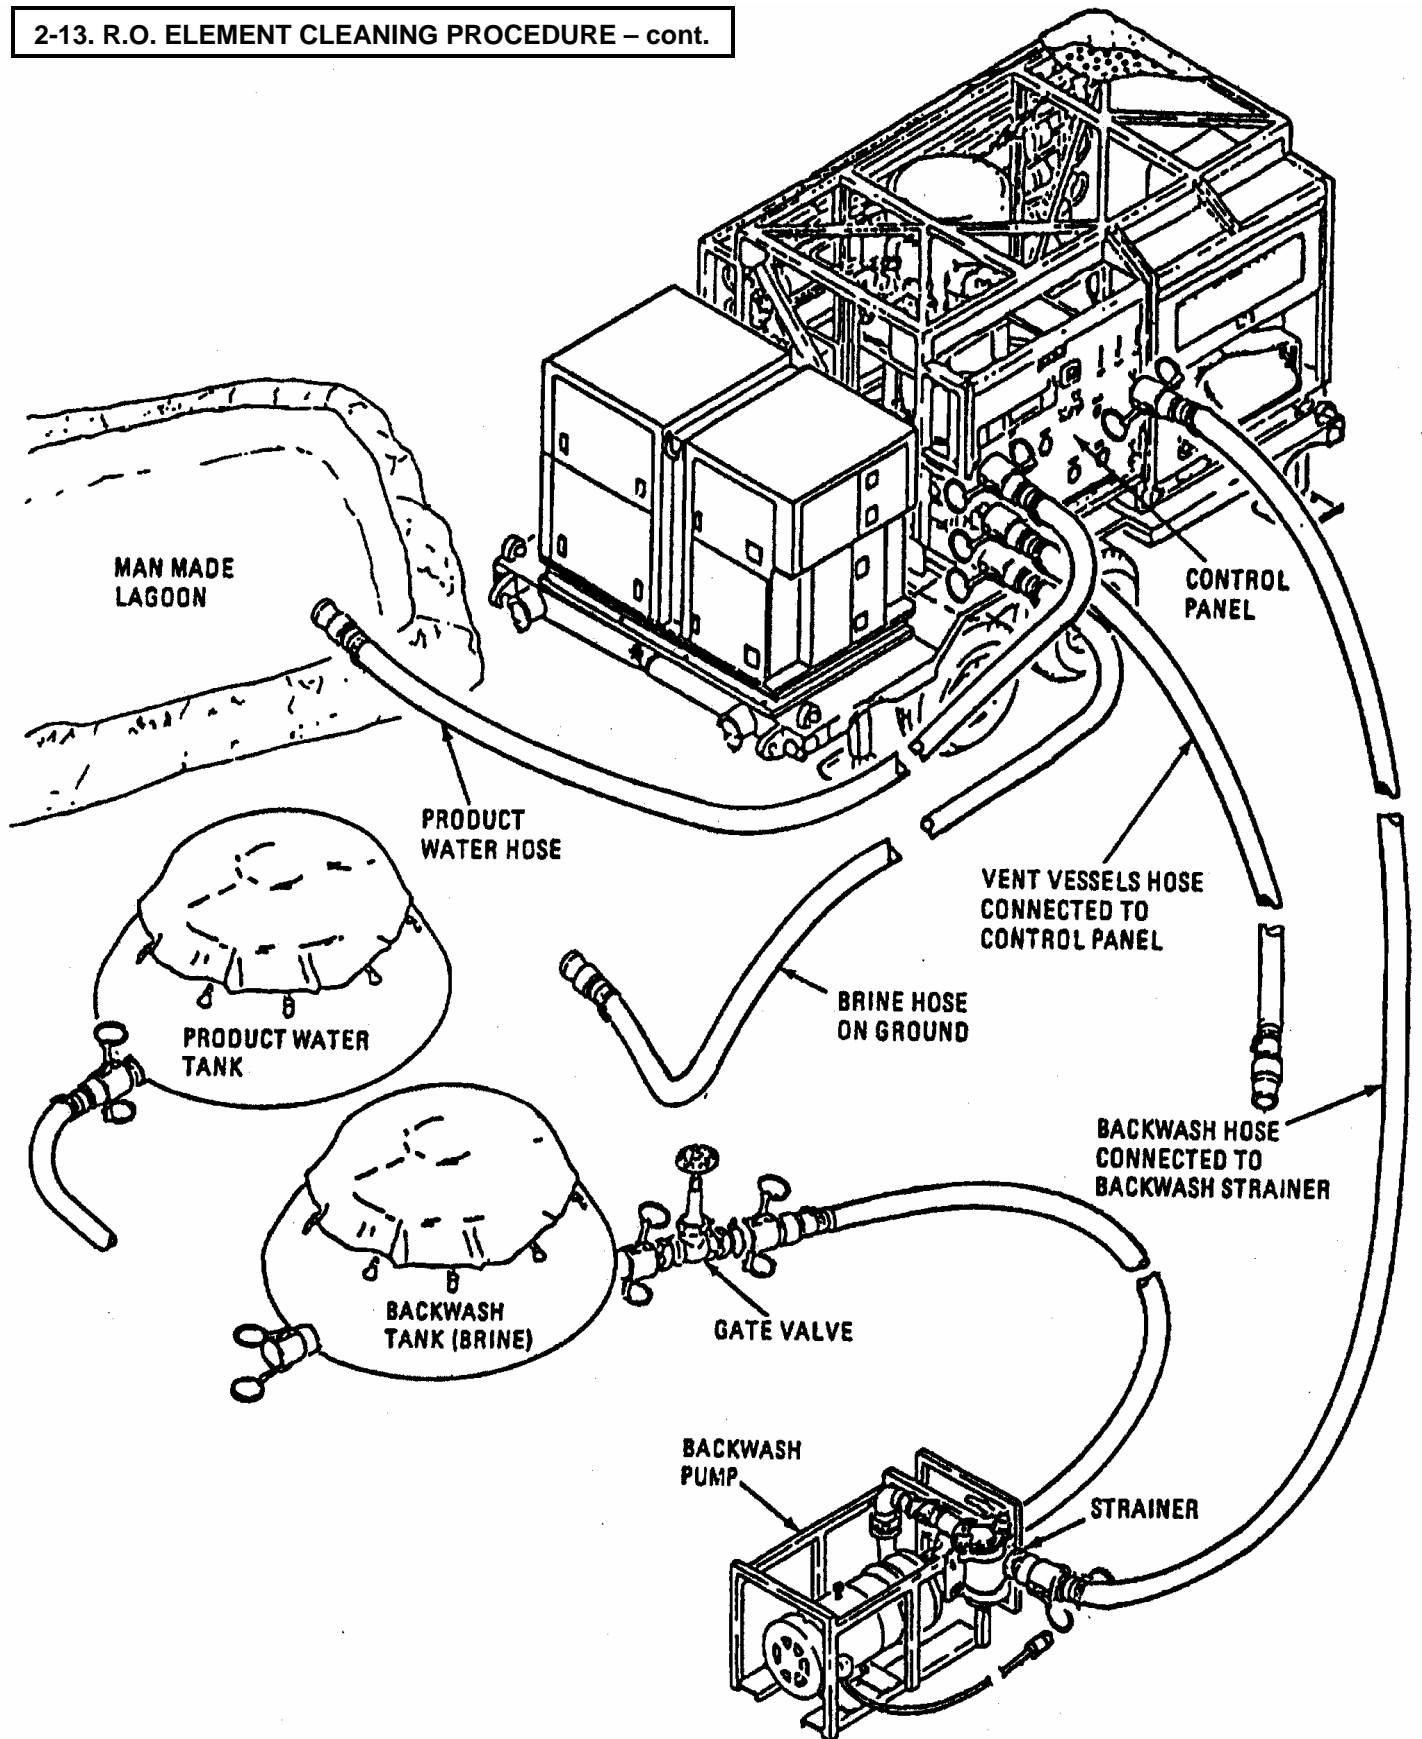

Figure 2-71. Rinsing R.O. Pressure Tubes.
- (24) Reconnect vent vessel hose to VENT VESSELS coupling on control panel (figure 2-71).